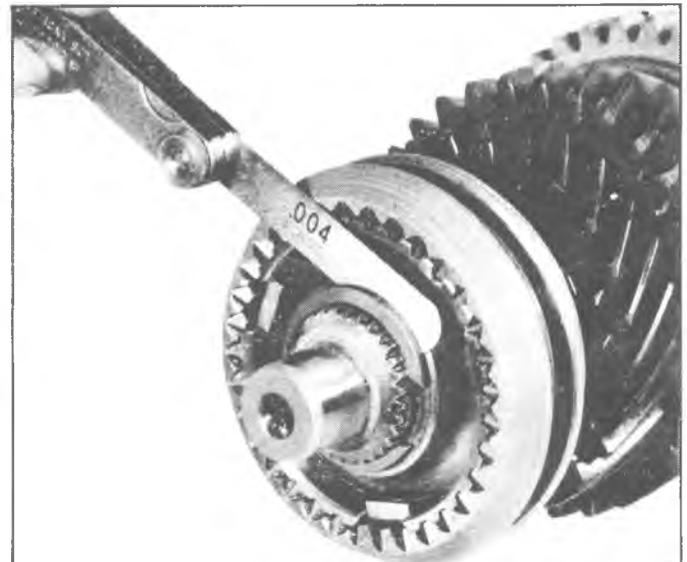

Fig. 7B-20B--Measuring Output Shaft End Play
3. Install spring in First-Reverse hub. (Make sure spring is bottomed in hub and covers all three key slots.) Position three synchronizer keys in hub, with small ends in hub slots and large ends inside hub. Push keys fully into hub so they seat on spring. Then slide First-Reverse sleeve and gear over keys until the keys engage in the synchronizer sleeve (Fig. 7B-13B).